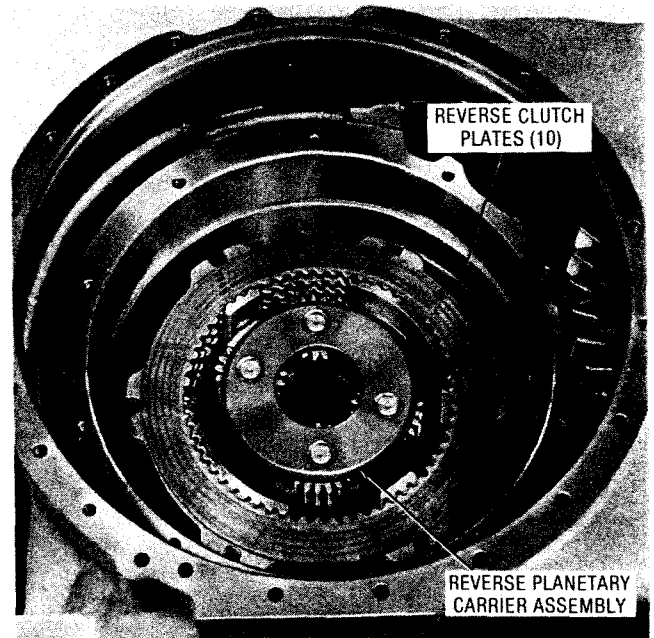

Fig. 5-57. Reverse planetary carrier assembly and clutch plates
b. Remove the reverse planetary carrier assembly and one internal-splined clutch plate as a unit (fig. 5-57). Separate the clutch plate from the carrier assembly. Refer to paragraph 6-25 for the reverse planetary carrier assembly rebuild instructions. Remove the remaining nine reverse clutch plates from the transmission housing.